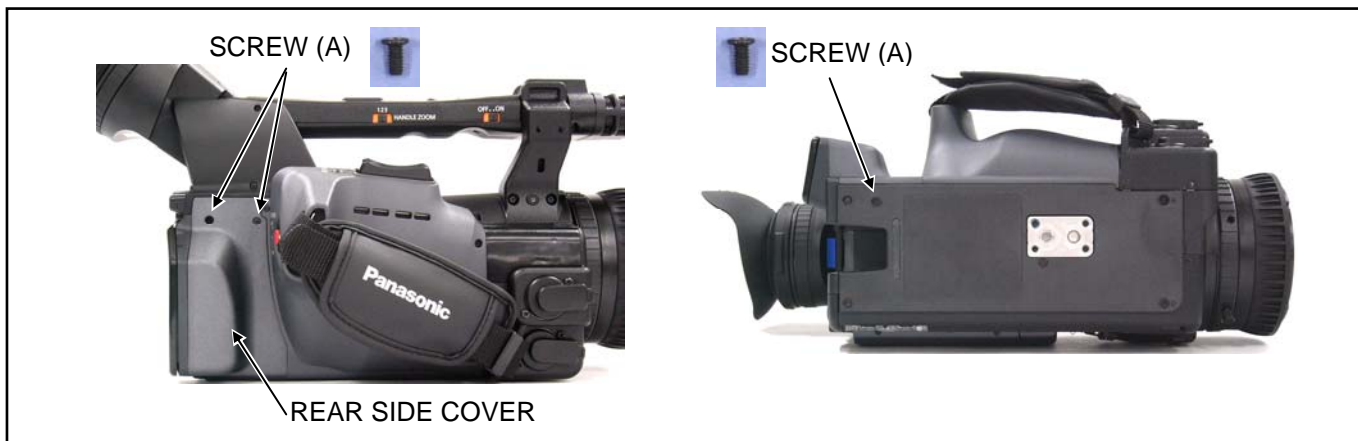

Figure 3-1
1. Unscrew the 3 screws (A) and remove the Rear Side Cover as shown in figure 3-1.